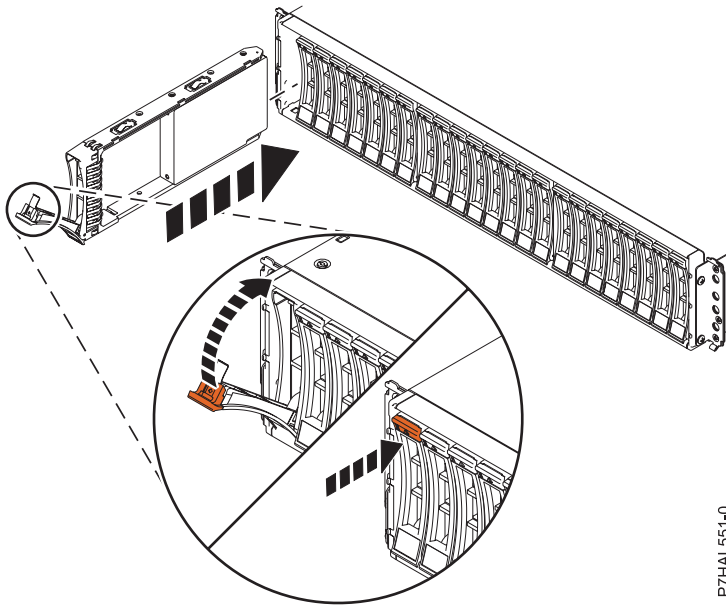

Figure 20. Installing the disk drive in the 5887 disk drive enclosure
1. With the handle in the unlocked position, see Figure 20 on page 24, support the bottom of the drive as you align it with the guide rails in the expansion unit.